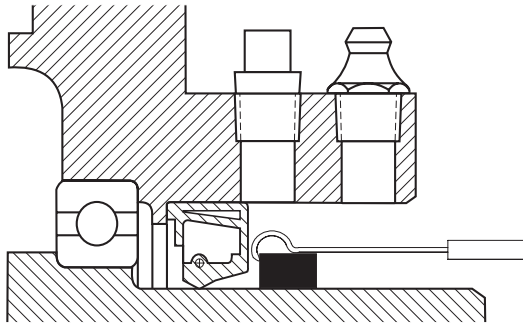

Figure 2
3. **Outer Seal** — With a hook shaped tool reach over the outer seal and pull outward moving around the opening, (see Figure 2).